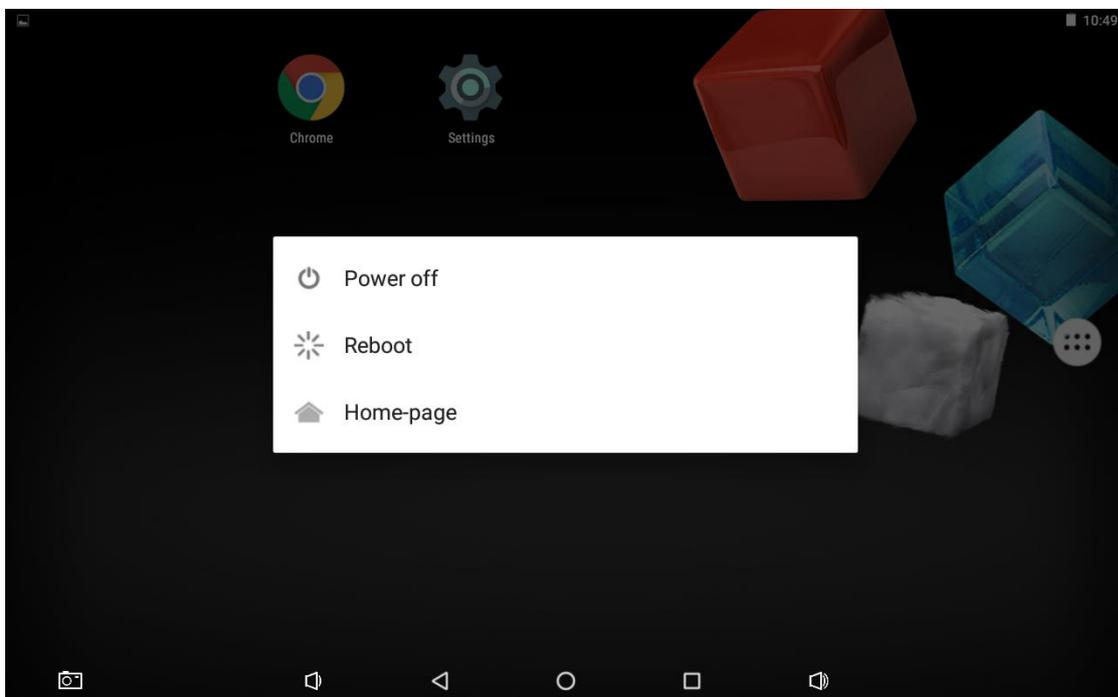

Figure 32: Using a Hidden Control Button
<p>Press the Control button (7). The Power/reset pop-up screen appears (see Figure 32):</p> <ul style="list-style-type: none"> If Home-page Exit is not password protected, switch to Home-page. If Home-page Exit is password protected (see Defining Control Button Password Protection on page 31), enter the correct password and switch to Home-page. 	<p>Press rear-side power button (10). Power/reset pop-up screen appears (see Figure 32). Go to Home-page.</p> <p>Or:</p> <p>Click power-off and wait for system shut-down. Press rear-side power button to power on. The Touch Panel powers up. Go to Home-page.</p>